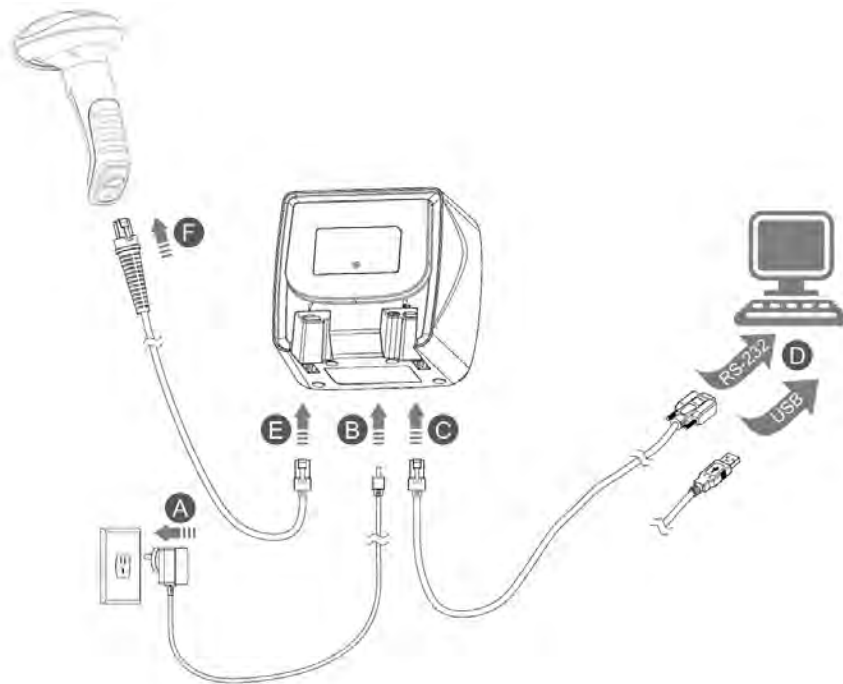

Figure 2-7
1. For the FR80 with the adapter, connect the adapter first and power on the FR80 according to step A and step B in Figure 2-7. Then connect the data cable (USB data cable or RS-232 data cable) according to step C and step D. Finally connect the handheld barcode scanner if needed, following step E and step F.